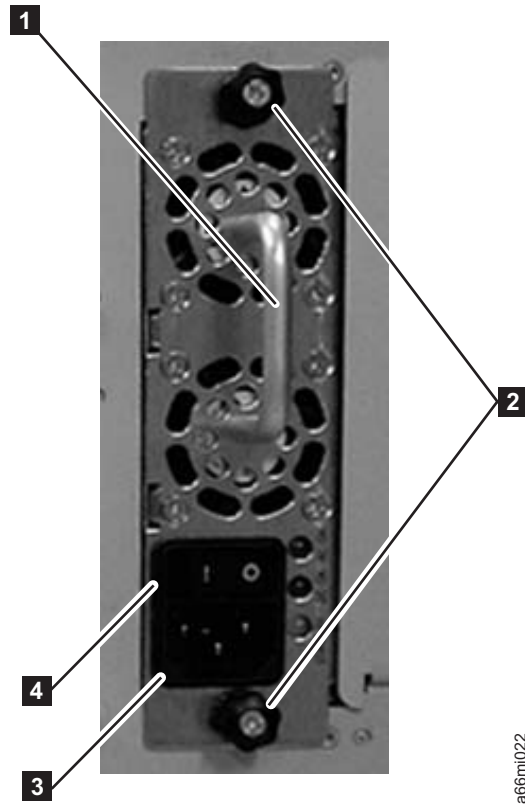

Figure 3-39. Control Module Power Supply
1. Replace the power supply component by sliding it into the power supply slot. First, grasp the handle (**1** in Figure 3-39) while supporting the power supply component from underneath. Then, line up the power supply component with the guides in the power supply slot, and carefully push it into the library.
2. Tighten the two thumb screws (**2** in Figure 3-39) on the power supply component by turning them clockwise.
1. Turn each power supply switch (**4** in Figure 3-39 on page 3-36) to the ON (|) position.